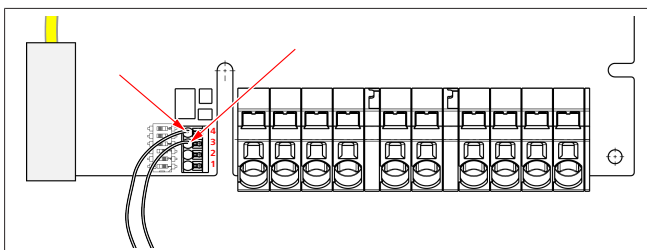

Fig. 9
The two cables from the ripple control receiver or the floating contact must be connected to this connector in positions 3 and 4 (see Fig. 9). The two cables can be assigned to pos. 3 and 4 in any order (sequence). (max. cable cross section 1.5 mm2).